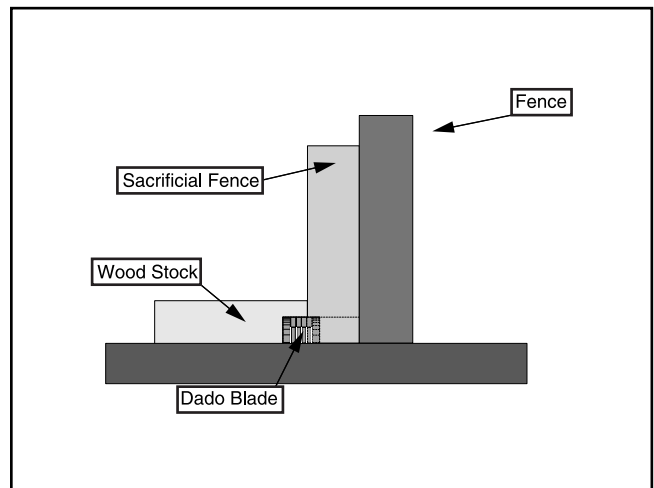

Figure 36. Rabbet cutting.
2. If rabbeting along the long length of your workpiece, adjust the distance between the fence and the workpiece to suit your needs as shown in **Figure 36**.